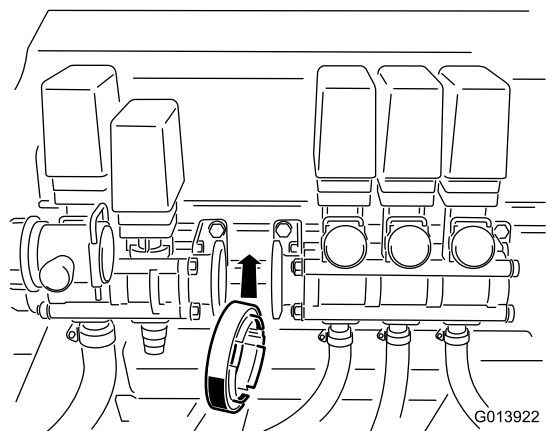

Figure 8
20. Slide the boom valve assembly back toward the new eductor valve until the two adapters are flush with the gasket in between them (Figure 8).